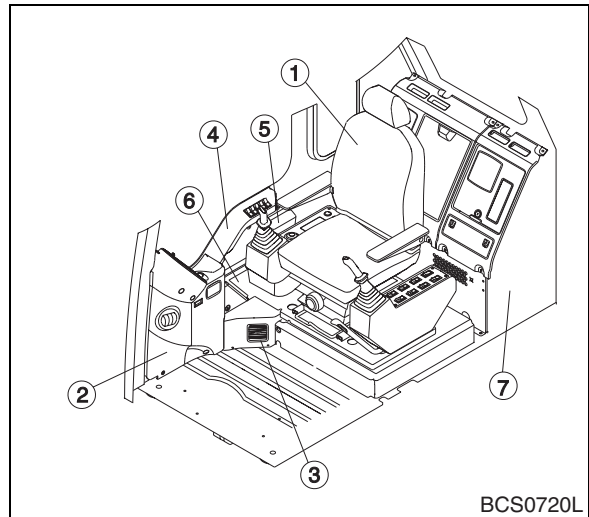

Figure 2
13. Remove operator's seat (1, Figure 2).
14. Remove duct covers (2, 3 and 4, Figure 2). When removing cover (2) disconnect hour meter connector and cigar lighter connector. Disconnect main harness connector before removing cover (4).
15. Remove pocket (5, Figure 2) before removing side panel (6, Figure 2).